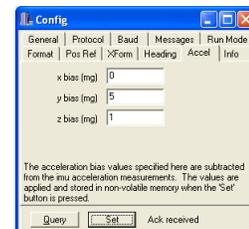

Figure 6. Biases entered into the "Accel" tab.
- Enter the calculated biases into the "Config" dialog box under the "Accel" tab (Figure 6).